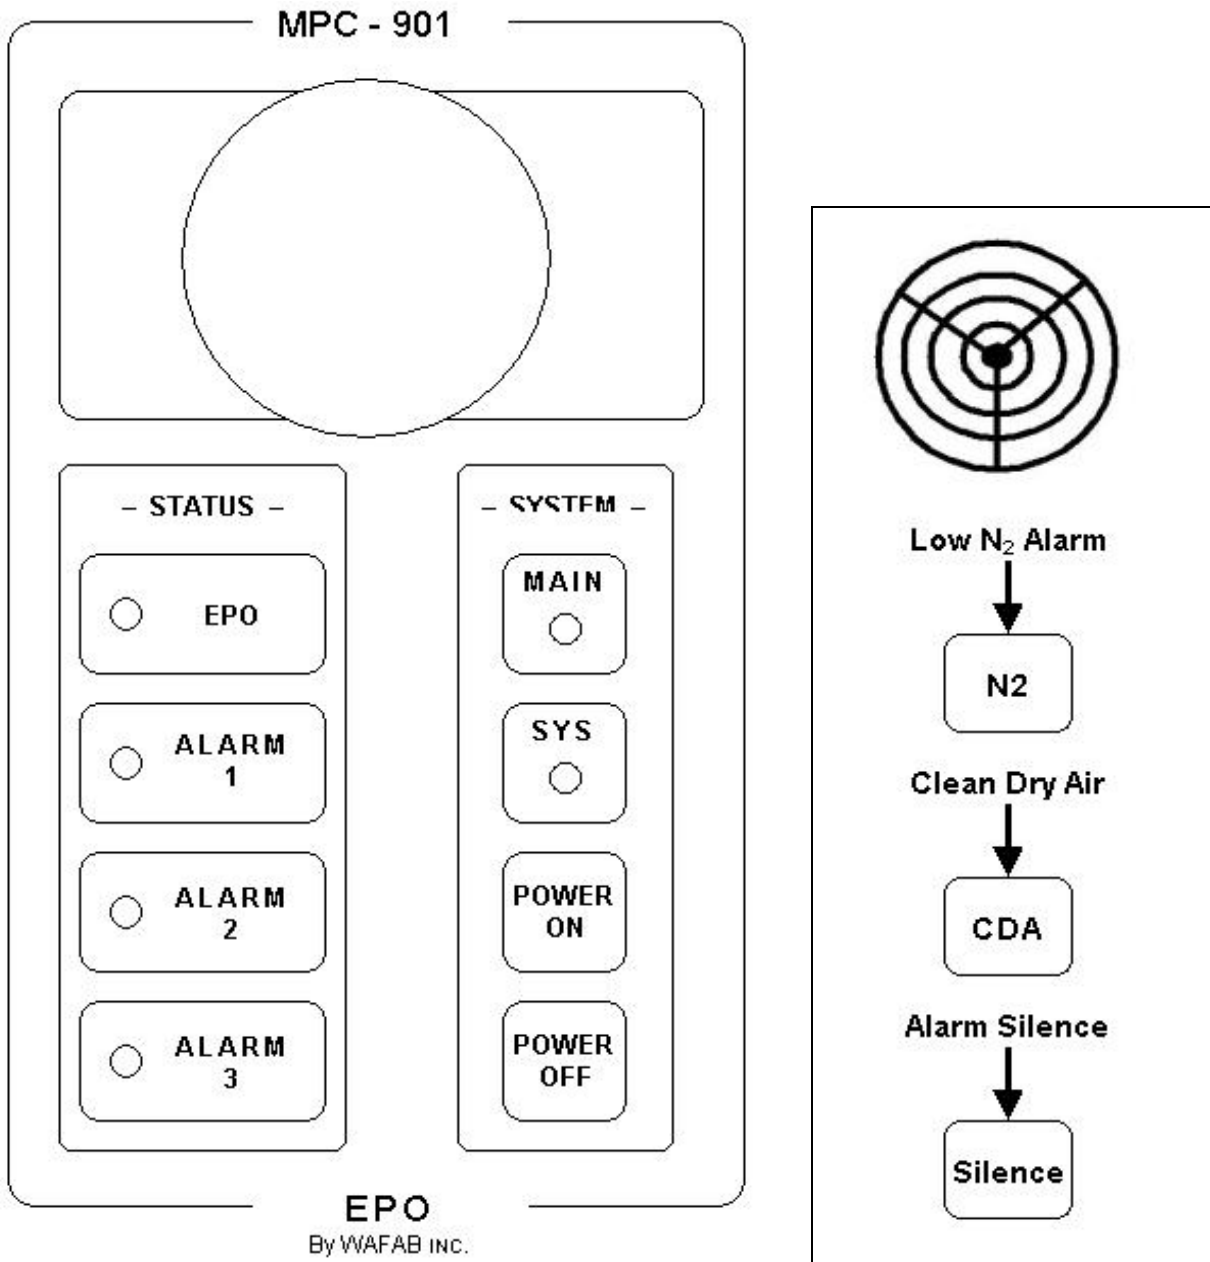
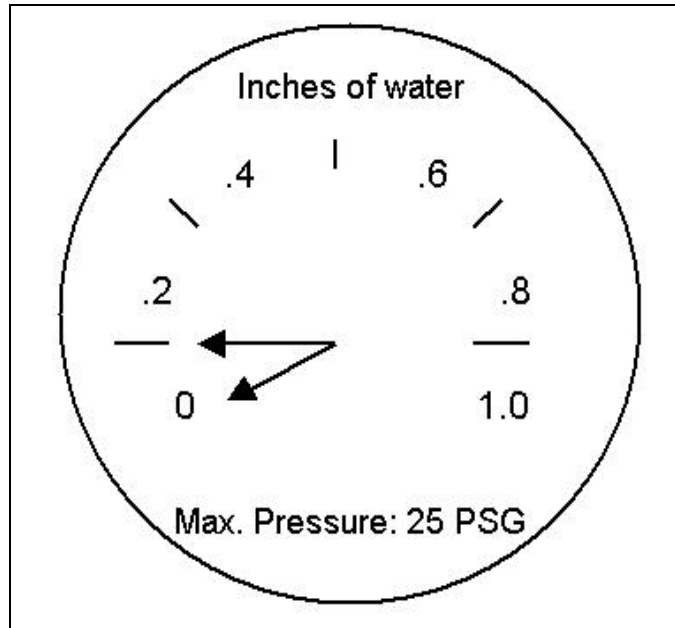

Figure 4 – Main System Power/Alarm Controller
Figure 5 – Photohelic Differential Pressure Gauge
6.4 **Dwyer Photohelic Exhaust Flow Meter** (Figure 5): Monitors the sink exhaust flow and will shut down all electricity and water to the sink if there is too much or too little flow. An alarm will sound; press the red SILENCE button (Figure 4) and promptly report on FAULTS.
6.5 **MPC-901 Emergency Alarm** (Figure 4): Cuts power to the sink in emergencies. Push the big red STOP button (Figure 4) to cut the power to this sink. Report promptly on FAULTS.
10.2.1 Power To System Off (Fig.4): Press power ON if no issues have been reported on the Wand or if the system is not under technician's control.
10.2.2 Photohelic Differential Pressure Reading (Fig. 5) is outside limits (two red bars): Consult with staff to check house exhaust pressure.